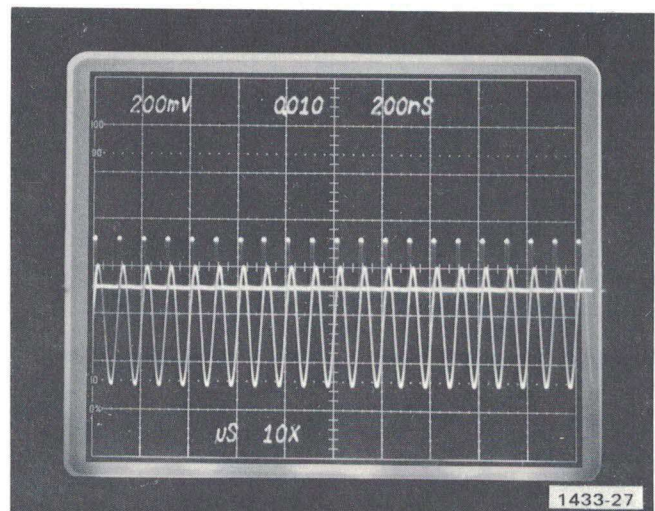

Fig. 5-8. Triggered pseudo gate display, compared to sine wave signal.
f. Adjust the 7D15 A and B trigger level controls for a triggered pseudo gate display (one gate pulse for every positive-going slope of the sine wave). See Fig. 5-8 for a properly adjusted gate pulse.